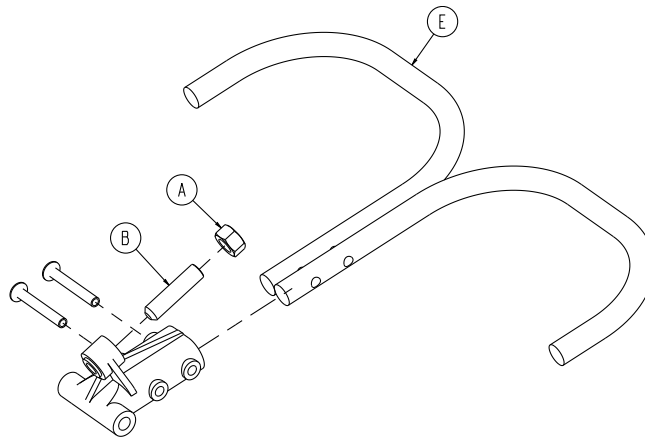

Figure 11 – Loosen the hex nut
6. Using a 1/2" combination wrench, loosen the hex nut (A) on the Fowler release handle pivot while using a 5/32" hex wrench to hold the set screw (B) fixed in the pivot (Figure 11).
7. Using a 5/32" hex wrench, turn the set screw until there is no movement between the Fowler release handle (E) and the pneumatic cylinder release button (Figure 11).